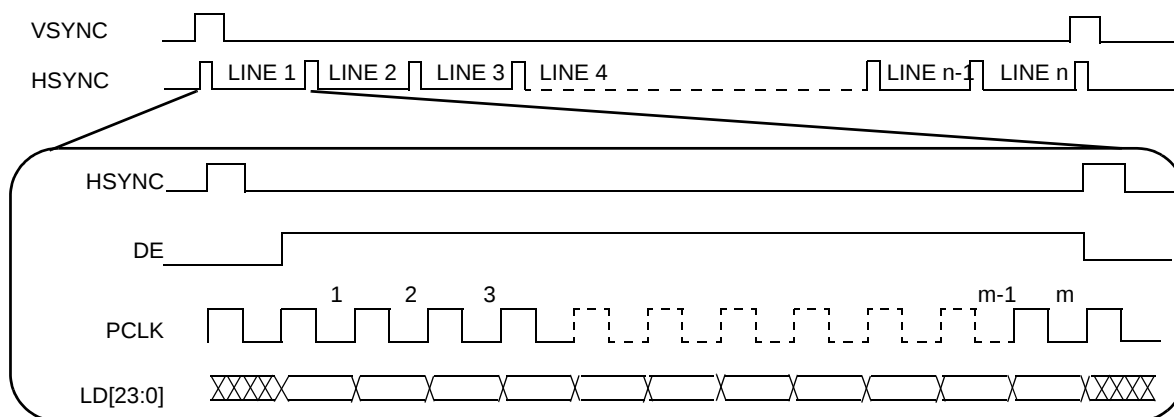

Figure 24. TFT LCD interface timing overview¹
Figure 24 depicts the LCD interface timing for a generic active matrix color TFT panel. In this figure signals are shown with positive polarity. The sequence of events for active matrix interface timing is:
1. In Figure 24, the “LD[23:0]” signal is “line data,” an aggregation of the DCU’s RGB signals—R[0:7], G[0:7] and B[0:7].